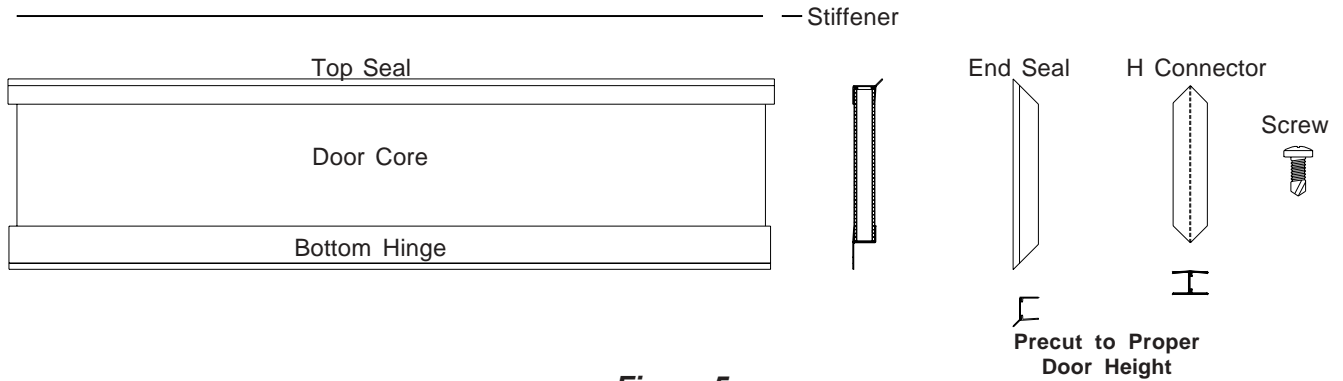

Figure 5
- 2) The field trim tunnel door comes partially assembled with the top seal extrusion, stiffener, and the bottom hinge placed on the three piece door core. Accompanying components are the H connector extrusion and two end seal extrusions, as well as, screws for attachment of desired extrusions. **See Figure 5.**